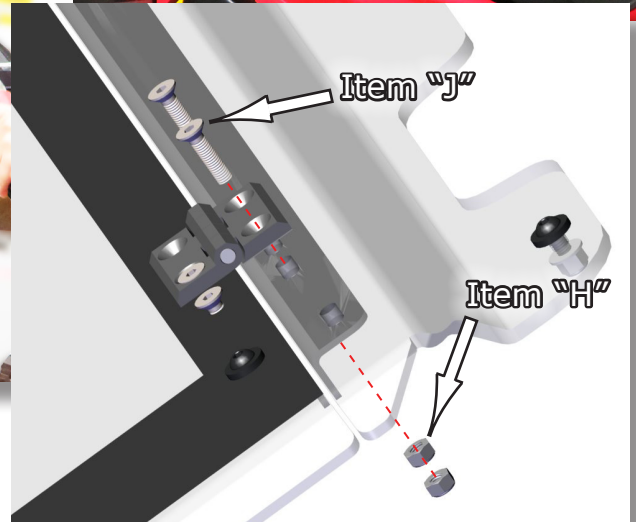

Fig.14
14. After the previous has been installed on the windshield, you can now set the Windshield in place and align the holes of the 3 hinges to the holes in the **Upper Windshield** section. You will use the M6x25 FT Bolts, **Item "J"** and Nylock Nuts, **Item "H"** and secure. **Fig.14** shows these actions and how these all go together.